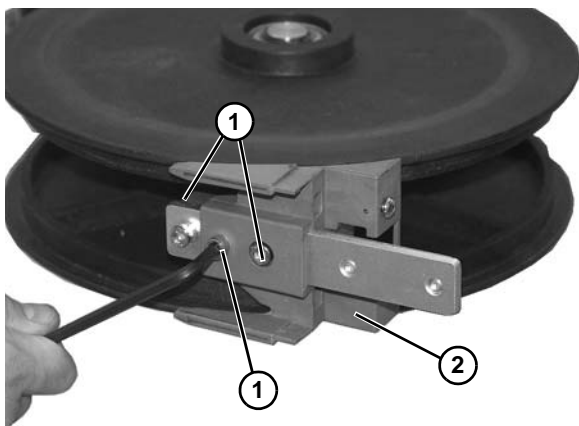

Figure 148
1. Remove screw (Figure 148, item 1) on both sides of guard cover (Figure 148, item 2). Remove guard cover.
2. Remove screws (Figure 148, item 1) from wheel guide (Figure 148, item 2).